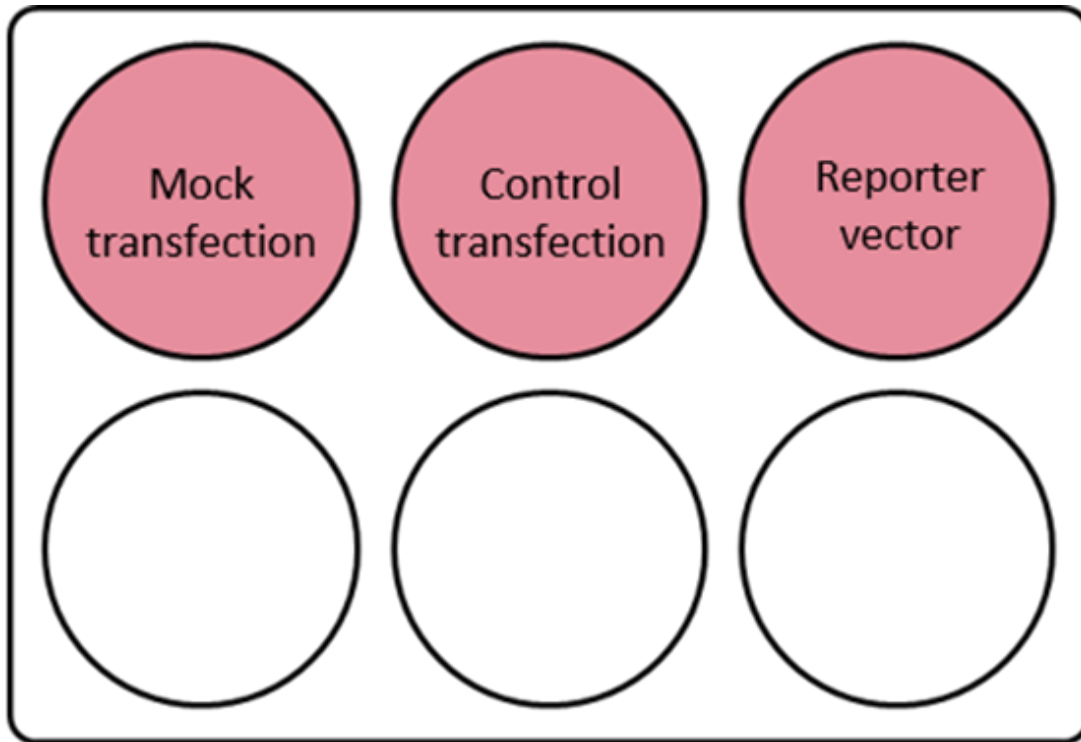

Figure 1. 6 well plate layout
- 3 Transfer  1.8 mL of the cell suspension into 3 wells of a 6 well plate to include a mock, control, and reporter transduction with the final cell number and reagent volumes shown in table 1. Ensure the plate is clearly labelled as per Figure 1.